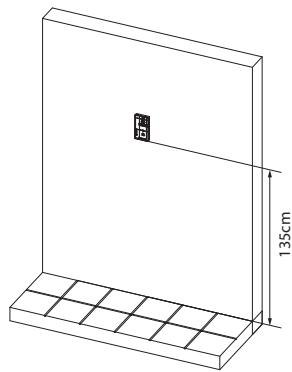
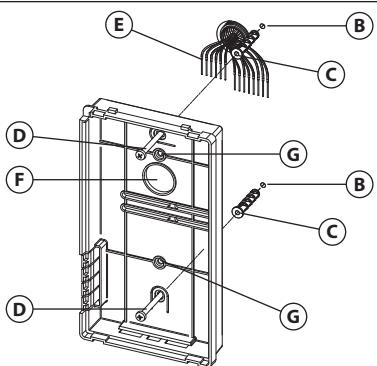

Fig. 5
Fig. 6
3. Put the base of the unit on the wall at approx 135cm from the finished floor (**Fig. 5**) to match the points for the fixing holes (B) (**Fig. 6**) remembering that the wires (E) (**Fig. 6**) must be fed through the large hole (F) (**Fig. 6**). If you use the flush mounting box 503, embed it into the wall vertically at approx. 140cm from the finished floor and the base.
4. Following **Fig. 6**, make the holes (B), insert the wall plugs (C) and fix the base with the screws (D) feeding the wires (E) through the hole (F). If you have used the box 503, fix the base to the wall through the holes (G) using the screws (D).